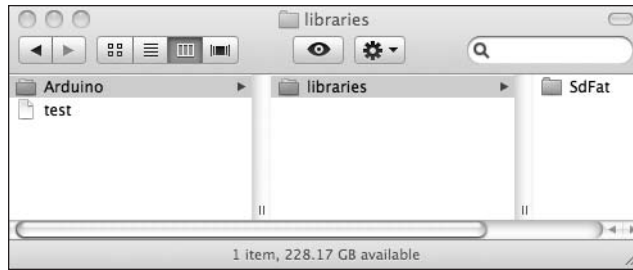

Figure 8-18: Completed library installation
- Copy the *SdFat* folder from the window shown in Figure 8-17 to your *Arduino/libraries* folder, as shown in Figure 8-18.